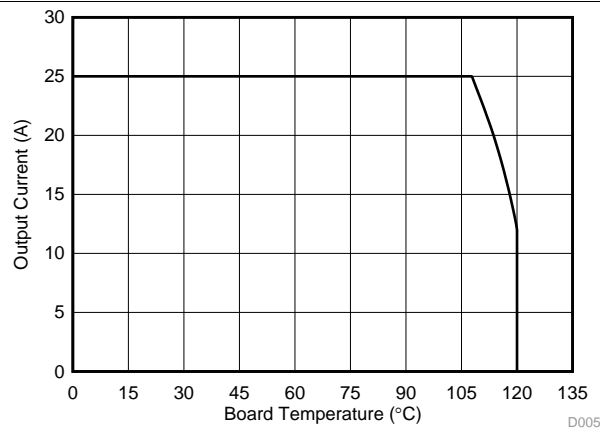

Figure 4. Typical Safe Operating Area⁽¹⁾
The SOA curves in the CSD87335Q3D data sheet provides guidance on the temperature boundaries within an operating system by incorporating the thermal resistance and system power loss. **Figure 4** outline the temperature and airflow conditions required for a given load current. The area under the curve dictates the safe operating area. All the curves are based on measurements made on a PCB design with dimensions of 4 in (W) × 3.5 in (L) × 0.062 in (T) and 6 copper layers of 1-oz copper thickness.